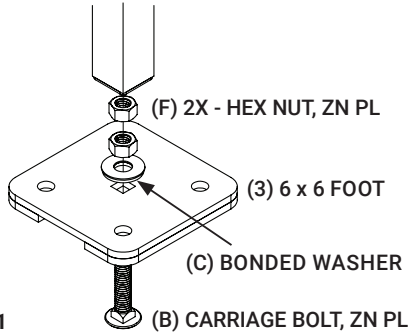

Fig. 1
1. Remove the foot plates (3) from the box and insert the carriage bolt (B) through the rubber side of foot as shown in Figure 1. Then secure the bonded washer (C) and two stainless steel nuts (F) per foot.